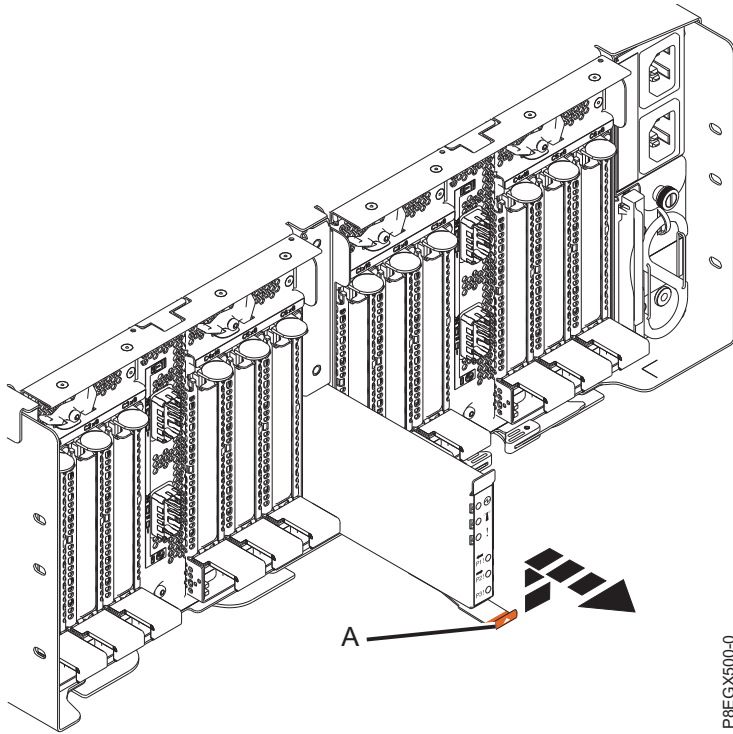

Figure 9. Removing the light pipe conduit card
11. Remove the light pipe conduit card. Squeeze the latch of the light pipe conduit card and pull the handle (A) up and toward you to release the light pipe conduit card. Set the card aside for reinstallation later. See Figure 9 on page 8.